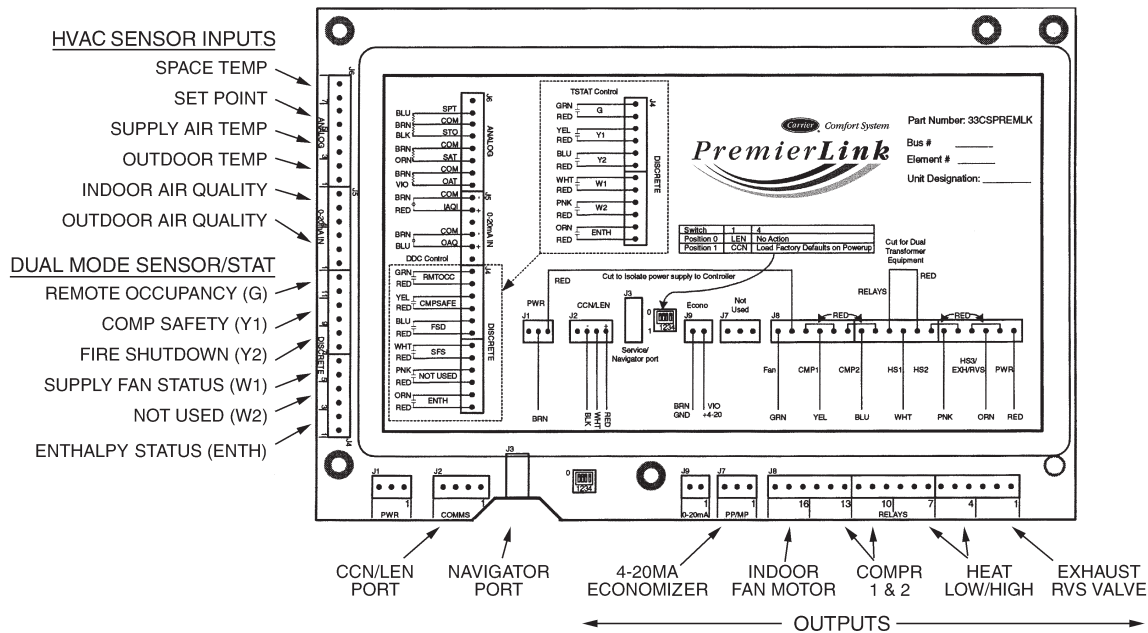

Fig. 27 - PremierLink Controller
The PremierLink controller (see Fig. 27) is compatible with Carrier Comfort Network® (CCN) devices. This control is designed to allow users the access and ability to change factory-defined settings, thus expanding the function of the standard unit control board. CCN service access tools include System Pilot (TM), Touch Pilot (TM) and Service Tool. (Standard tier display tools Navigator™ and Scrolling Marquee are not suitable for use with latest PremierLink controller (Version 2.x).)